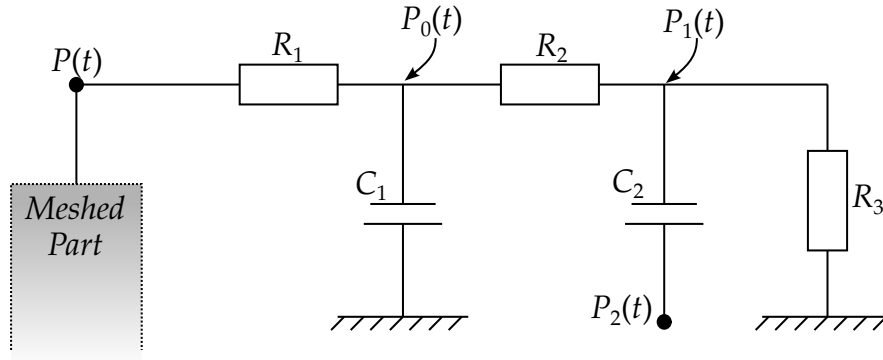

Figure 7-2. WTYPE = 3 and 4 circuit
P2LCID	ID of load curve describing the behavior of $P_2(t)$ as a function of time when applicable. See Remarks 2, 3, and 4 and Figures 7-2, 7-3, and 7-4 .
2. **WTYPE = 3 and 4.** See Figure 7-2 for a diagram of the circuit. The equation solved at the boundary is: